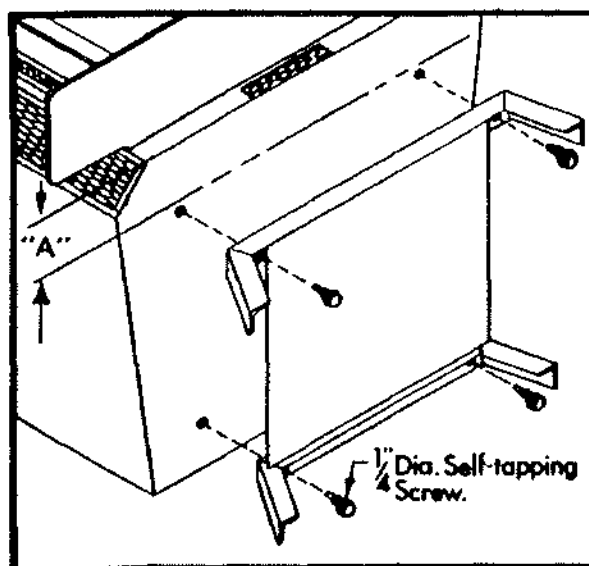

FIGURE 5
7. Attach the legstand by tilting the stove on its back, center the legstand on the bottom of the stove and position back 7/32" from the dimension shown in chart left of Figure 5. When positioned, drill holes through holes of mounting stand and attach using 1/4" Dia. self-tapping screws provided. (See Figure 5.)